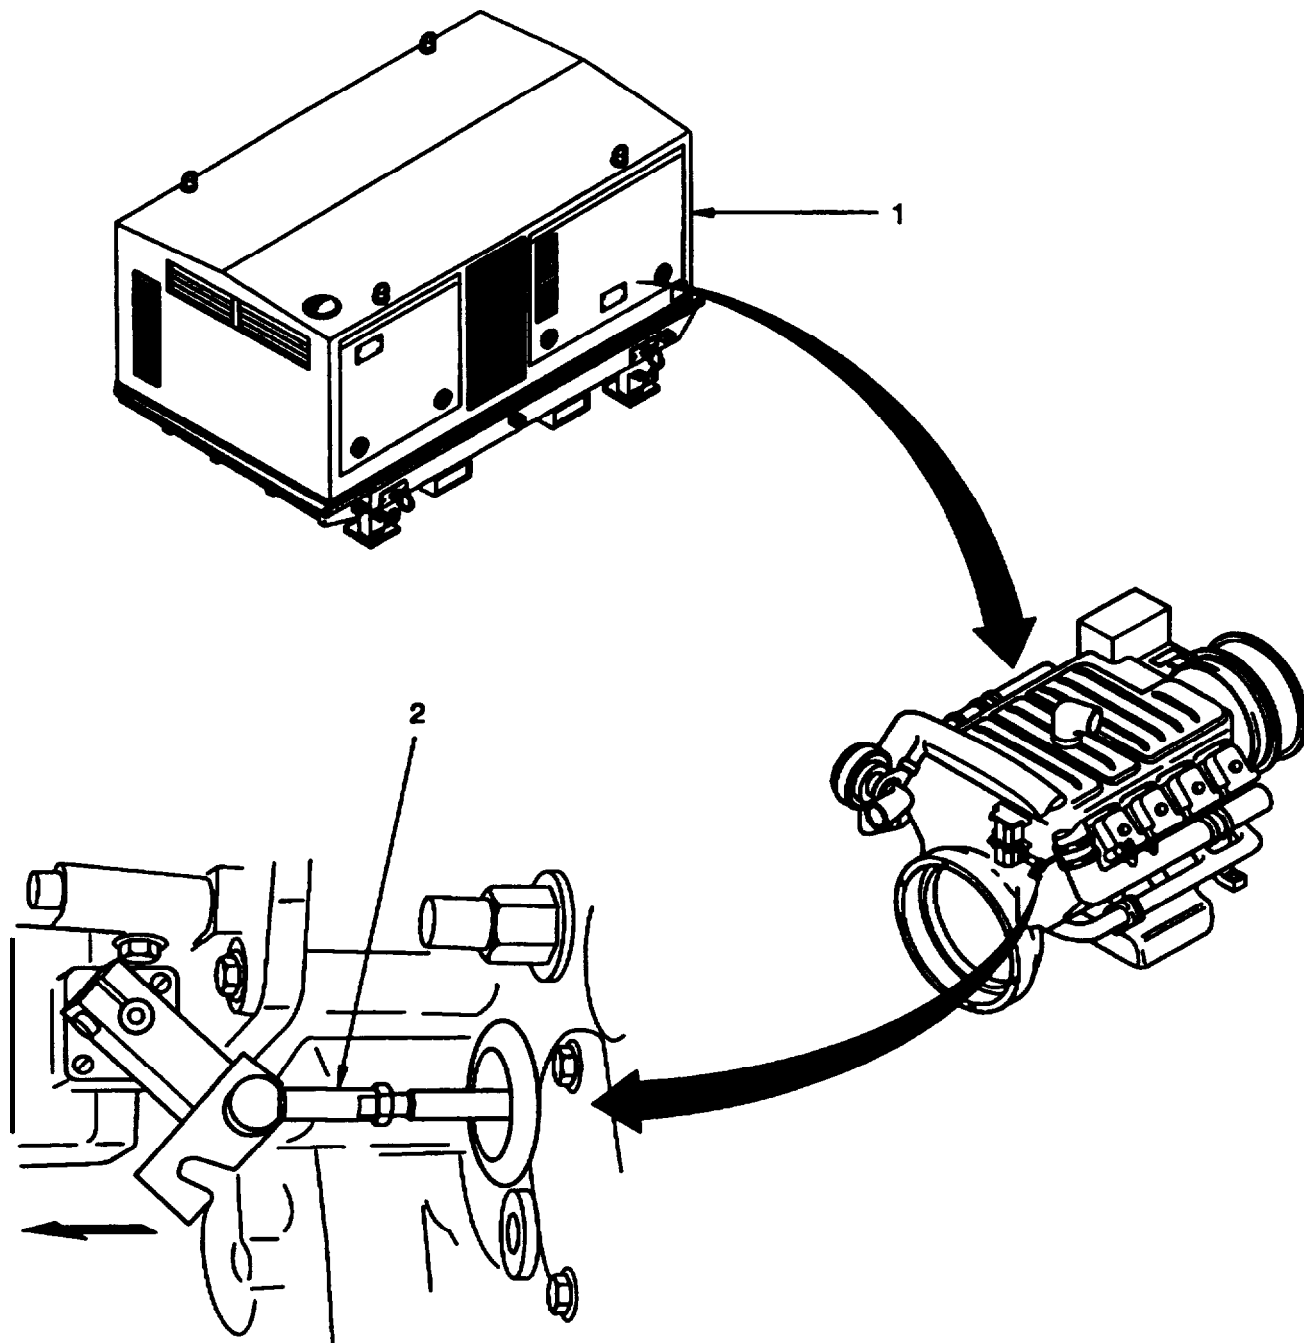

Figure 2-26 Fuel Injection Pump Actuator Linkage.
6. Have a second person open flap (1, figure 2-26) and pull the fuel injection pump actuator rod (2) in the direction of the arrow.